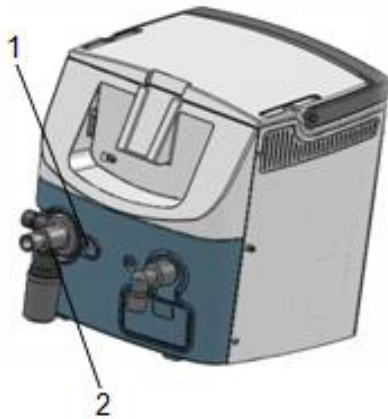

Figure 8-8
- h. Press the button(1 in Figure 8-8);
- i. Pull out the expiratory valve core component (2 in Figure 8-8);